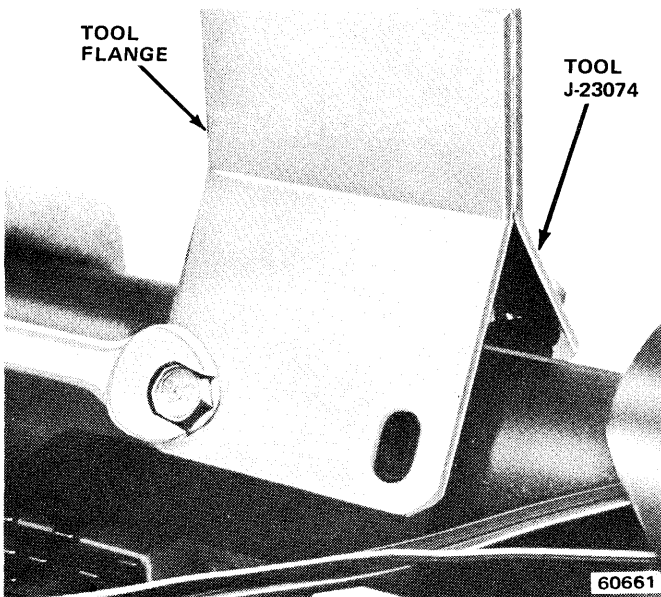

Fig. 11-3 Attaching Support Fixture
However, the column must be removed in order to service any of the remaining components. If the column is removed, remove the column-to-instrument panel mounting bracket and install Support Fixture J-23074 (fig. 11-3). Mount the column in a vise by clamping the support fixture flange in the vise.
- (27) Remove column from vehicle, if necessary, and mount column in vise using Support Fixture Tool J-23074 (fig. 11-3).
- (28) Remove steering shaft.
- (29) Remove snap ring from lower bearing retainer and remove retainer, bearing, and adapter.